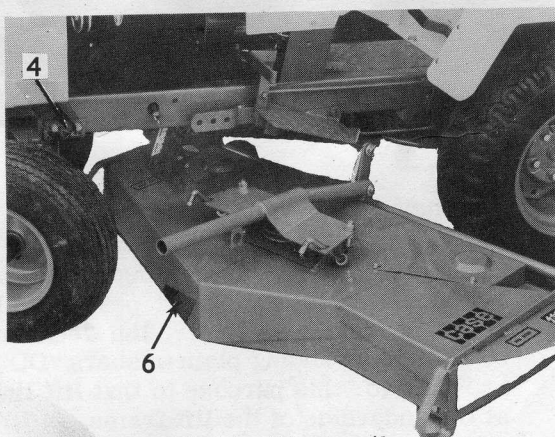

Figure 12. Positioning the Mower Under Left Side of Tractor
6. Cramp the front wheels to the right and slide the mower under the tractor from the left side as illustrated in Figure 12.